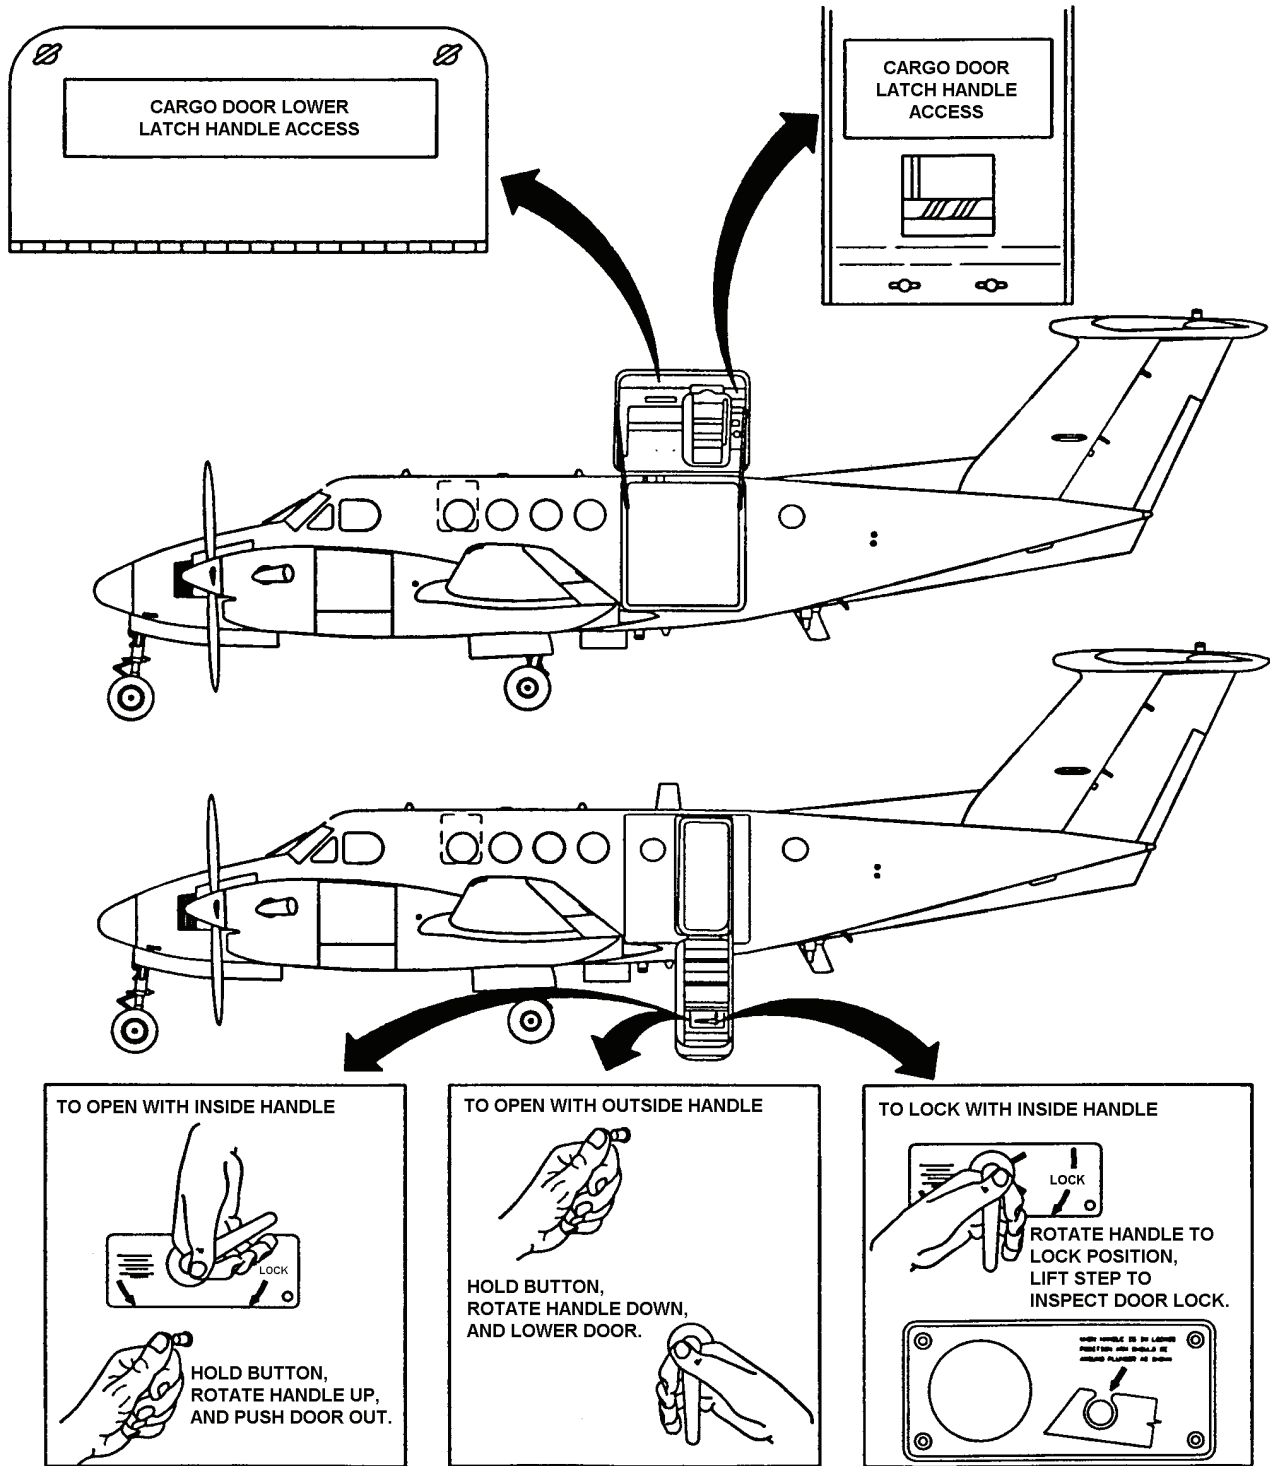

Figure 2-8. Cabin and Cargo Doors
An airstair cabin door, hinged at the bottom, provides a stairway, for normal and emergency entrance and exit. Refer to Figure 2-8. In the closed position, the door becomes an integral part of the cargo door. The cabin door is provided with steps, two of which fold flat against the door in the closed position. A step folds down over the doorsill when the door opens to provide a platform (step) for door seal protection. **T3 F3** A plastic-encased cable provides a handhold and support for the door in the open position and a convenience for closing the door from inside. **R** Two plastic-encased cables provide a handhold and support for the door in the open position and a convenience for closing the door from inside. A hydraulic damper permits the door to lower gradually during opening. A rubber seal around the door seals the pressure vessel while the aircraft is in flight. The door locking mechanism is by either of the two mechanically interconnected handles, one inside and the other outside the door. When either handle is rotated, three rotating cam-type latches on either side of the door capture posts mounted on the cargo door. A button adjacent to the door handle must be pressed before the handle can be rotated to open the door. A bellows behind the button is inflated when the aircraft is pressurized to prevent accidental unlatching and/or opening of the door. A placard adjacent to the window instructs the operator that the safety lock arm is in position around the bellows shaft that indicates a properly locked door. Pushing the red button adjacent to the window will illuminate the inside door mechanism. **T3 F3** A red **CABIN DOOR** annunciator on the warning panel will illuminate if the door is not closed and all latches fully locked. **R** A **DOOR UNLOCKED** warning light on the warning annunciator panel will illuminate if the door is not closed and all latches fully locked. The cabin door opening is 21.5 inches wide by 46.0 inches high.
b. Cargo Door. A swing-up cargo door, hinged at the top, provides access for loading cargo or bulky items. Refer to Figure 2-8. The cargo door opening is 52.0 inches wide by 52.0 inches high. After initial opening force is applied, gas springs will completely open the cargo door automatically. The door is counter-balanced and will remain in the open position. A door support rod is used to hold the door in the open position, and to aid in overcoming the pressure of the gas spring assemblies when closing the door. Once closed, the gas springs apply a closing force to assist in latching the door. A rubber seal around the door seals the pressure vessel while in flight. The door locking mechanism is operated only from inside the aircraft, and is operated by two handles, one in the bottom forward portion of the door and the other in the upper aft portion of the door. When the upper aft handle is operated per placard instructions, cam-type latches (two on the forward side of the door and two on the aft side) rotate, capturing posts mounted on the fuselage side of the door opening. The bottom handle, when operated per placard instructions, actuates four pin-lug latches across the bottom of the door. A button on the upper aft handle must be pressed before the handle can be released to open or latch the door. A latching lever on the bottom handle must be lifted to release the handle before the lower latches can be opened. These act as additional aids in preventing accidental opening or unlatching of the door. The cabin and cargo doors are equipped with dual sensing circuits to provide the crew with remote indication of cabin/cargo door security. An annunciator, placarded **DOOR UNLOCKED** or **CABIN DOOR**, will illuminate if the cabin or cargo door is open and the battery switch is on. If the battery switch is off, the annunciator will illuminate only if the cabin/cargo door is not securely closed and latched. The cabin/cargo door sensing circuit receives power from the hot battery bus.